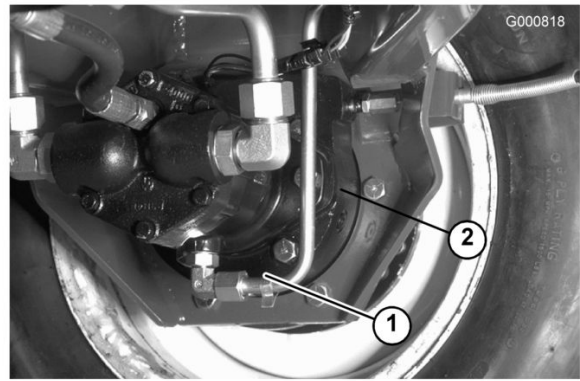

Figure 65
2. Remove the plug on the planetary (Figure 64) and the check plug on the back side of the brake (Figure 65).